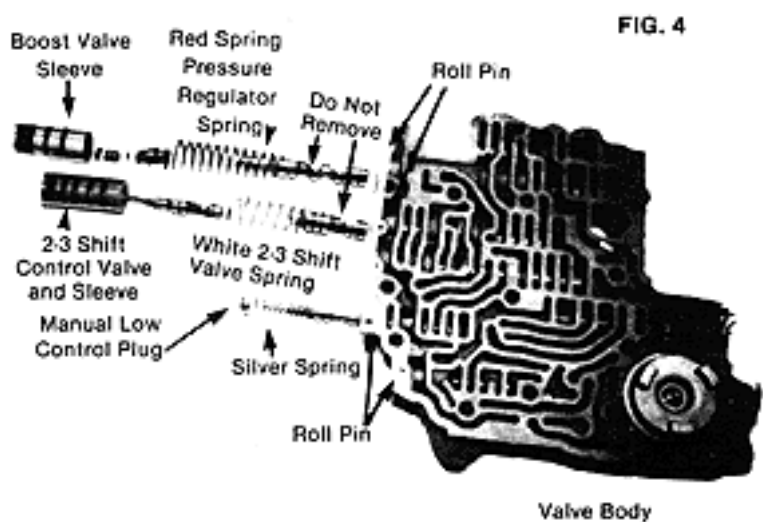

FIGURE 4
**STEP 7.** Valve Body: Place the valve body on the bench with the channel side up. Remove the roll pin holding the 2-3-shift control valve sleeve in place. (See Fig. 4) Remove the sleeve carefully. This may require a little prying with a small screwdriver. Try not to raise any burrs during removal. Next remove the 2-3-shift valve spring. Discard this spring and replace it with the white spring supplied with the kit. Note: The small tapered end goes in first. Install the 2-3-shift control sleeve assembly as removed. Align sleeve and install retaining roll pin.
**STEP 8.** Remove the roll pin holding the boost valve sleeve in place. Remove the sleeve carefully. Again, this may require a little prying with a small screwdriver. Remove the pressure regulator spring and discard it. Replace it with the red spring supplied with the kit. Note: This small tapered end goes in first. Replace sleeve assembly and roll pin. (See Fig. 4)
**STEP 9.** Remove the roll pin that holds the manual low control plug in place. Remove the plug and the manual low control spring. Discard the spring and install the special silver spring supplied in its place. Install the plug and pin as removed. (See Fig. 4)
**STEP 16.** Lay valve body gasket (the small one) on the valve body. Guide valve body into position. Engage manual valve linkage in selector lever. S-links can only install one way. Off-set linkage must be installed with the link in the forward position (See Fig. 4) Install valve body bolts finger tight. Install detent roller spring so it engages selector lever. Tighten valve body bolts to 13-ft.lbs. Tighten stiffener plate bolts to 13-ft.lbs. Make sure shifter operates freely at this point.